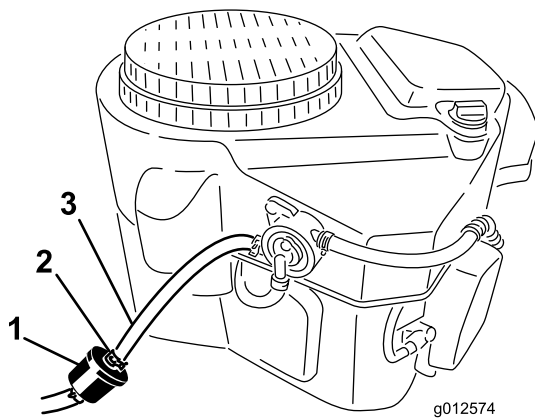

Figure 33
4. Squeeze the ends of the hose clamps together and slide them away from the filter (Figure 33).